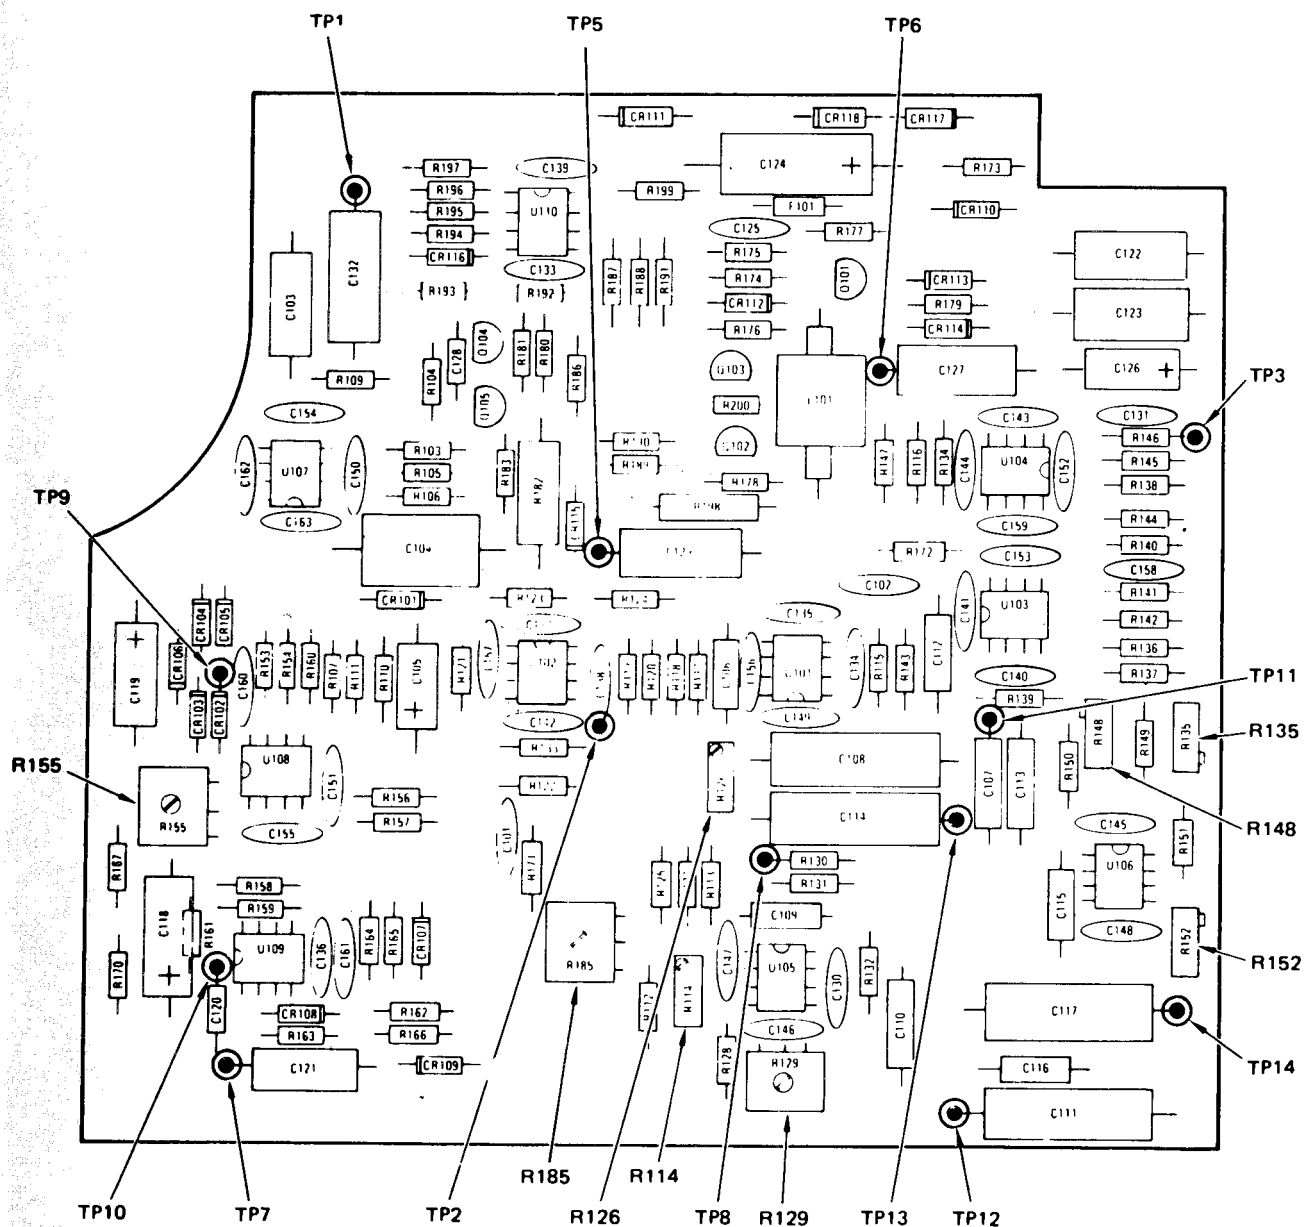
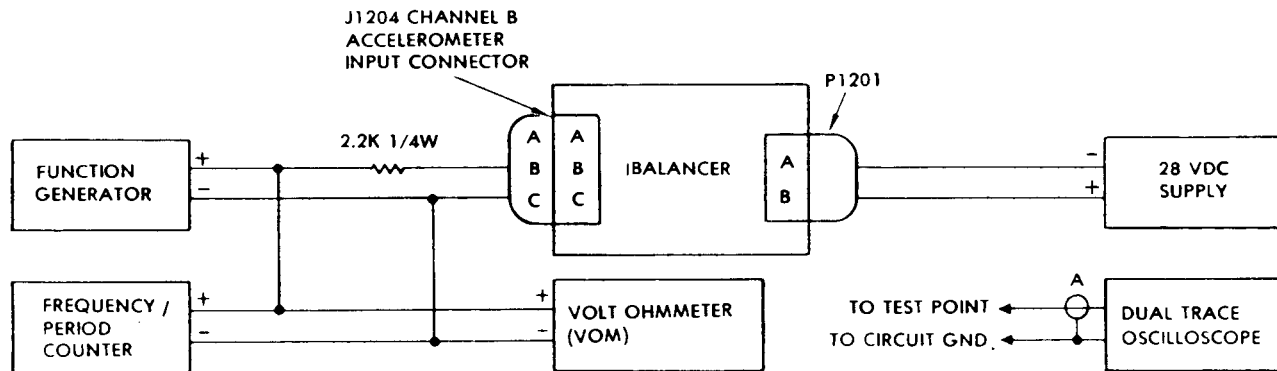

Figure 4-5. Balancer Test Points and Adjustments
Figure 4-6. Balancer Test Setup
a. Perform Balancer resistance checks as applicable in Table 4-1. Figure 4-5 shows the location of Balancer test points.
(1) Connect +28 vdc power supply only to Balancer as shown in Figure 4-6.
(2) Set Balancer RPM Dial to 100.
(3) Use VOM to measure voltages at test point in Table 4-2.
(1) Connect Balancer and test equipment as shown in Figure 4-6.
(2) Set Balancer FUNCTION switch to B, R.P.M. RANGE switch to X10, and R.P.M. TUNE dial to 999.
(3) Connect oscilloscope to function generator output and set up function generator for a sine wave output of 166 Hz at 80 mV rms.
(4) Press and hold VERIFY TUNE switch and adjust frequency of function generator for a peak indication on IPS meter. Verify that frequency /period counter indicates 166.6 ± 3.3 Hz. Release VERIFY TUNE switch.
(5) Adjust output of function generator (do not change frequency) for a full scale indication on IPS meter. Verify that VOM indicates $115 \text{ mV} \pm 5\%$.
(6) Disconnect oscilloscope from function generator and set up oscilloscope to measure amplitude of signal at each test point listed in Table 4-3, Part A, and illustrated in Figure 4-5. Verify that oscilloscope indication correspond to Table 4-3.
(7) Set R.P.M. RANGE switch to X1.
(8) Connect oscilloscope to function generator and set function generator output to 16.66 Hz at 11.5 mV.
(9) Press and hold VERIFY TUNE switch and adjust frequency of function generator for peak indication on IPS meter. Verify that frequency/period counter indicates 16.66 ± 0.33 Hz. Release VERIFY TUNE switch.
(10) adjust output of function generator (do not change frequency) for a full scale indication on IPS meter. Verify that VOM indicates $11.5 \text{ mV} \pm 5\%$.
(11) Disconnect oscilloscope from function generator and set up oscilloscope to measure amplitude of signal at each test point listed in Table 4-3, Part B. Verify that oscilloscope indications correspond to Table 4-3.
(12) Set R.P.M. RANGE switch to X10 and R.P.M. TUNE dial to 100.
(13) Press and hold VERIFY TUNE switch and adjust frequency of function generator for a peak indication on IPS meter. Verify that frequency/period counter indicates 16.66 ± 0.33 Hz. Release VERIFY TUNE switch.
(14) Adjust output of function generator (do not change frequency) for a full scale indication on IPS meter.
(15) Set up oscilloscope to measure amplitude of signal at each test point listed in Table 4-3, Part C. Verify that oscilloscope indications correspond to Table 4-3.
(16) If Functional tests indicate all circuits are functioning properly, perform adjustments in paragraph 4-20a to align balancer section.